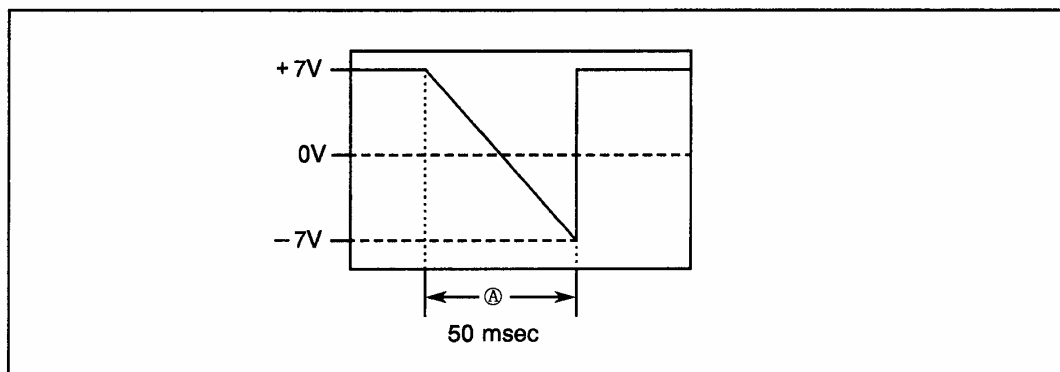

Figure 6-12 Output Waveform of Signal at Pin 17 of U43
- (2) Observe the signal of pin 4 (*STPAA) of U43 on the oscilloscope and make sure that this signal is TTL high.
- (3) Observe the signal of pin 19 (*RESET) of U43 on the oscilloscope and make sure that this signal is TTL high.
- (4) Observe the signal of pin 20 (CLKO) of U43 on the oscilloscope and make sure that this is the 20 MHz TTL signal.
- (5) Observe the signal of pin 17 of U43 on the oscilloscope and make sure that this signal has the same waveforms as shown in Figure 6-12.